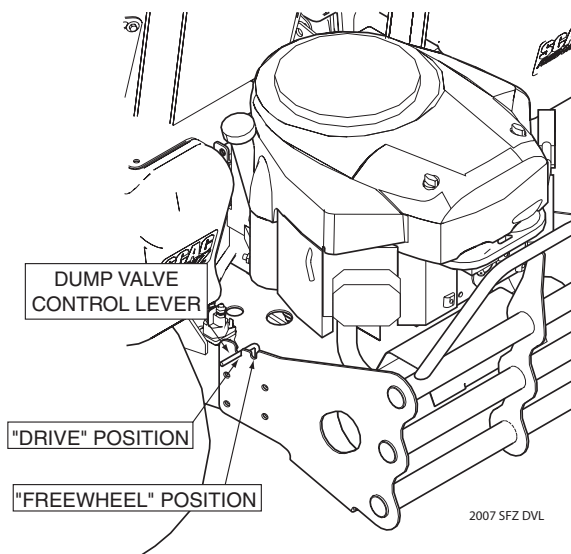

Figure 4-2. Dump Valve Control
11. **Dump Valve Control Levers (Figure 4-2).** Located on the left and right side of the bumper, used to "free-wheel" the mower. Rotating the levers forward into the notch (towards the front of the mower) allows the unit to move under hydraulic power. Rotating the levers backward to the notch (towards the rear of the mower) allows the mower to be moved by hand (free-wheeling).